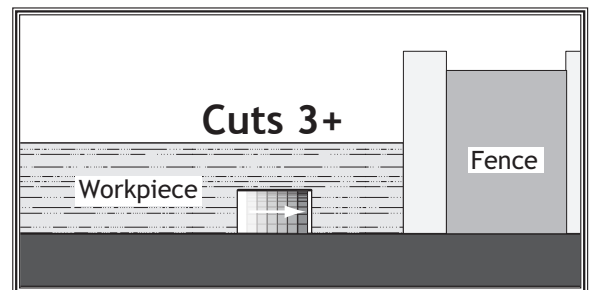

Figure 54. Additional single blade dado cuts.
8. Make additional cuts (see **Figure 54**) in the center of the dado to clear out the necessary material. The dado is complete when the channel is completely cleared out.